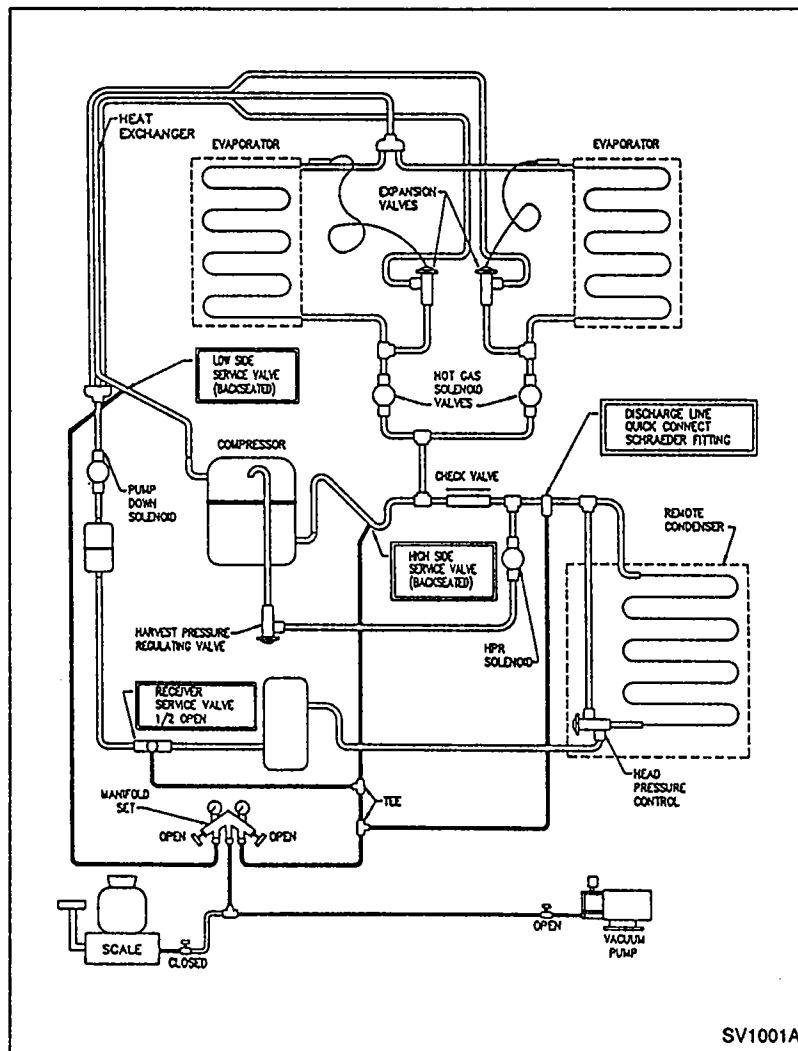

FIGURE 71. EVACUATION OF REMOTE SYSTEMS
1. Evacuation of remote systems requires connection at four points for complete evacuation as follows. Refer to Figure 71.
2. Install manifold gauges, scale and two-stage vacuum pump as shown on Figure 71.